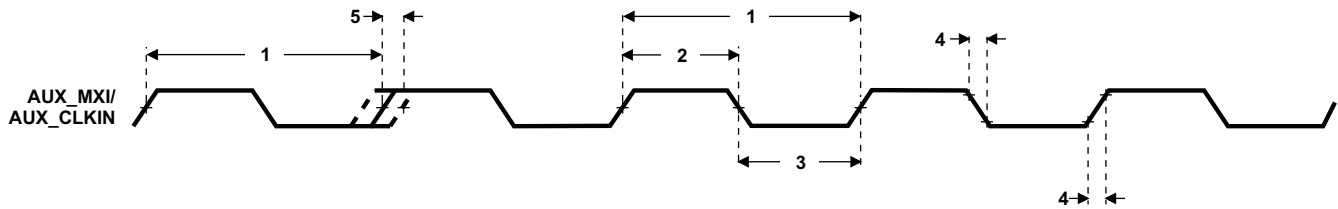

Figure 7-17. AUX_MXI/AUX_CLKIN Timing
Table 7-14. Timing Requirements for AUX_MXI/AUX_CLKIN ^{(1) (2) (3)} (see Figure 7-17)